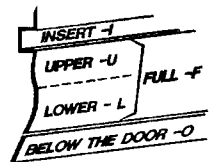

fig. 1
- ◆ **TEST FIT EVERY PIECE.** Check that the shape and roll of each piece properly conforms to the contour of the vehicle. Note the proper placement and alignment for your kit. (see fig. 1 & alignment tip at right)